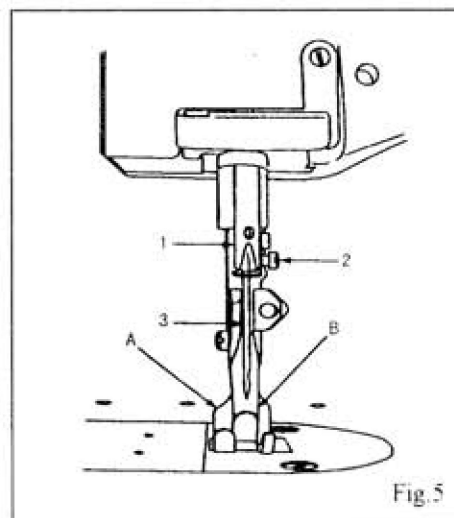

Fig.5
### 4. REPLACE NEEDLES (Fig.5)
2) When altering the lift of the lifting presser foot (A Fig.5) unequally against that of the vibrating presser foot (B Fig.5) or vice versa, see the instructions " ADJUSTING THE HEIGHT OF THE PRESSER FEET "